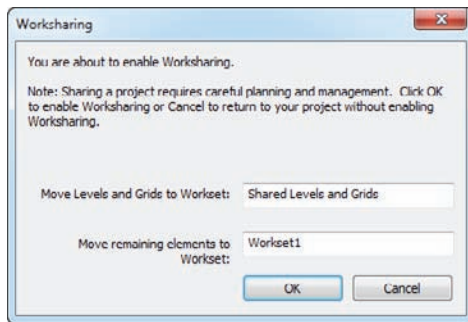

FIGURE 22.3 The Worksharing dialog
3. You get a Worksharing dialog that welcomes you to the point of no return. Accept the default values Shared Levels And Grids and Workset 1, as shown in Figure 22.3, and click OK.